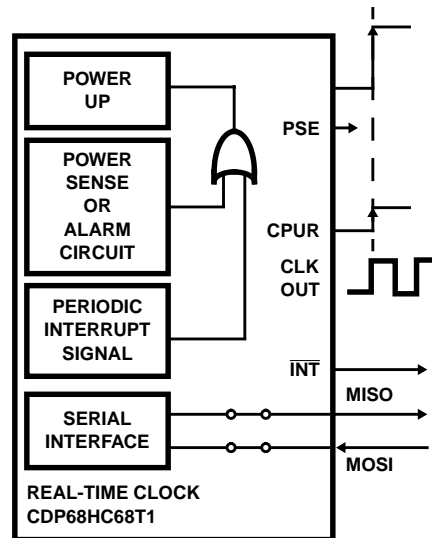
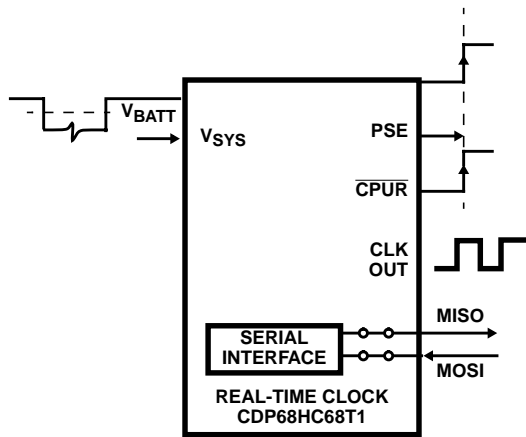

FIGURE 5. POWER-UP FUNCTIONAL DIAGRAM (INITIATED BY INTERRUPT SIGNAL)
FIGURE 6. POWER-UP FUNCTIONAL DIAGRAM (INITIATED BY A RISE IN VOLTAGE ON THE “VSYS” PIN)
### Watchdog Function (See Figure 6)
**Power Up (See Figure 5 and Figure 6)**
Two conditions will terminate the Power-Down mode. The first condition (See Figure 5) requires an interrupt. The interrupt can be generated by the alarm circuit, the programmable periodic interrupt signal, or the power sense circuit.
The second condition that releases Power Down occurs when the level on the  $V_{SYS}$  pin rises about 0.7V above the level at the  $V_{BATT}$  input, after previously falling to the level of  $V_{BATT}$  (See Figure 6) in the Battery Backup Mode or  $V_{SYS}$  falls to logic low and returns high in the Single Supply Mode.